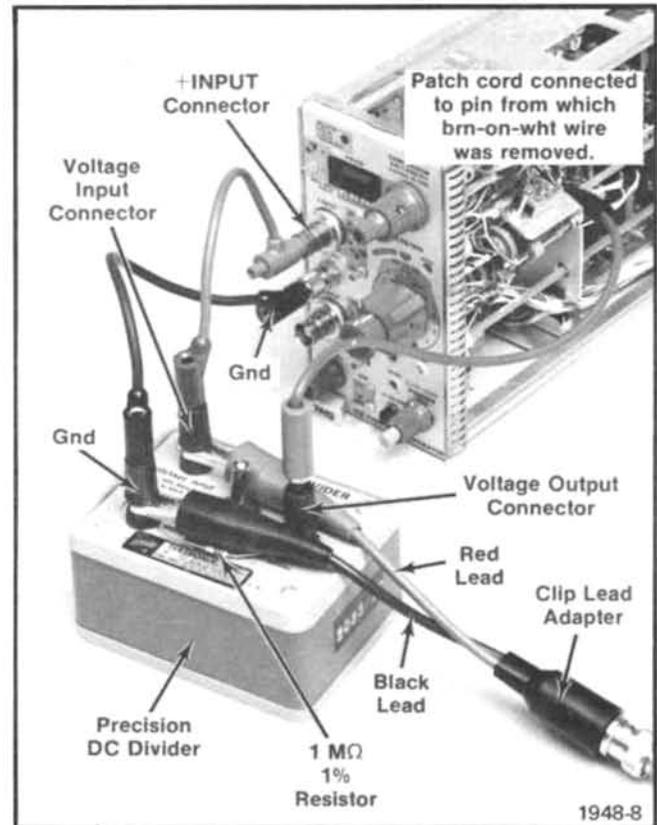

Fig. 5-5. Closeup view of the Precision DC Divider interconnections to the 7A13.
- a. Test equipment setup, for this step is shown in Fig. 5-5.
- c. Connect a 6-inch patch cord from the 7A13 + INPUT connector to the Precision DC Divider Voltage Input connector (see Fig. 5-5).